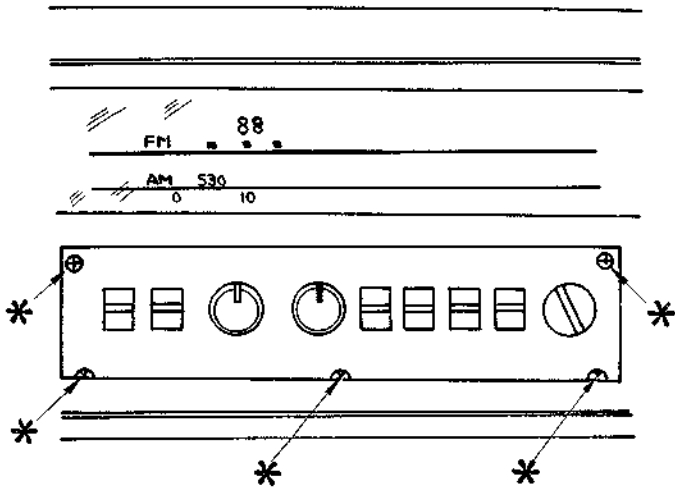

Fig. 2-10
- (c) Take off the decoration plate of control panel, by removing five screws (+ RF 2.7x6). See Fig. 2-10.